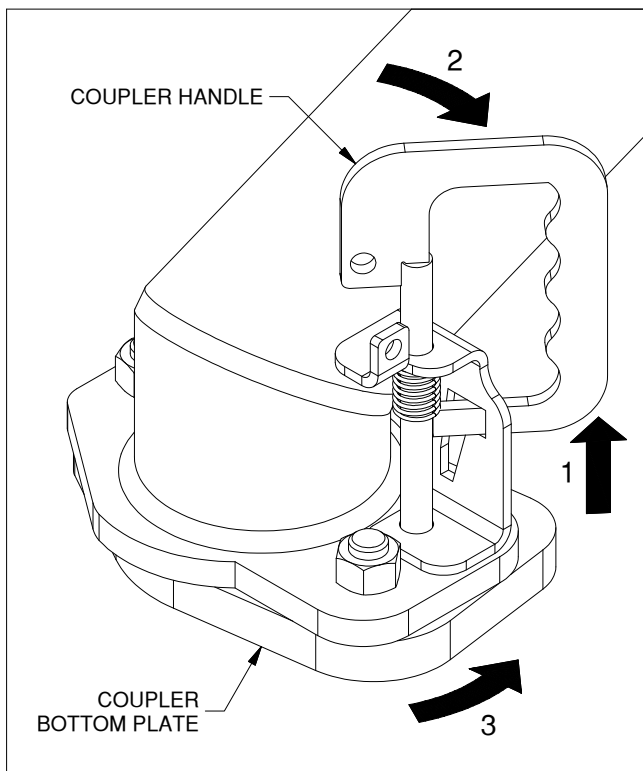

Figure B1: Coupler in "open" position
- 1. Set coupler position.** Set the coupler to the "open" position. To do this, (1) grip the handle and pull straight up about 1", (2) rotate the handle clockwise until it stops, then release. (3) Rotate the coupler bottom plate counter-clockwise until it stops. See figure B1.
2. **Set the coupler position.** Set the coupler to the "open" position. To do this, (1) grip the handle and pull straight up about 1", (2) rotate the handle clockwise until it stops, then release. (3) Rotate the coupler bottom plate counter-clockwise until it stops. See figure B1.